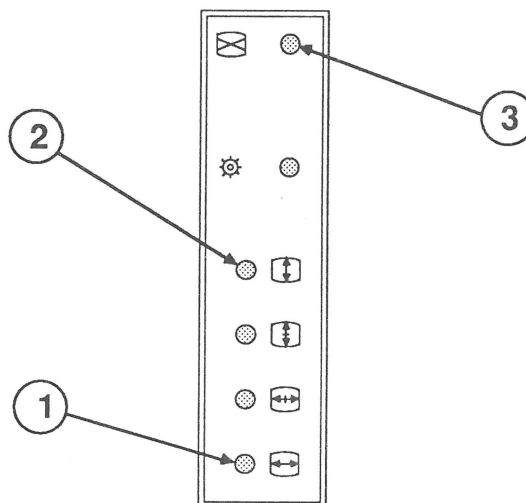

FIGURE 4
2. Insert the plastic screwdriver in the HORIZONTAL SIZE control (Figure 4, #1) and twist it until the raster is 213.5 mm wide.
2. Insert the plastic screwdriver in the VERTICAL SIZE control (Figure 4, #2) and twist it until the raster is 160 mm high.
2. Insert the plastic screwdriver in the FOCUS control (Figure 4, #3) and adjust the focus for the best clarity at the center of the screen.